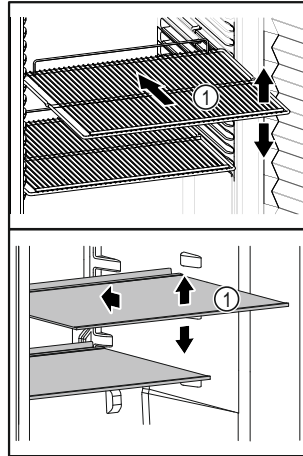

Fig. 5 Example illustration
- If storage surfaces Fig. 5 (1) are movable, adjust them according to height.